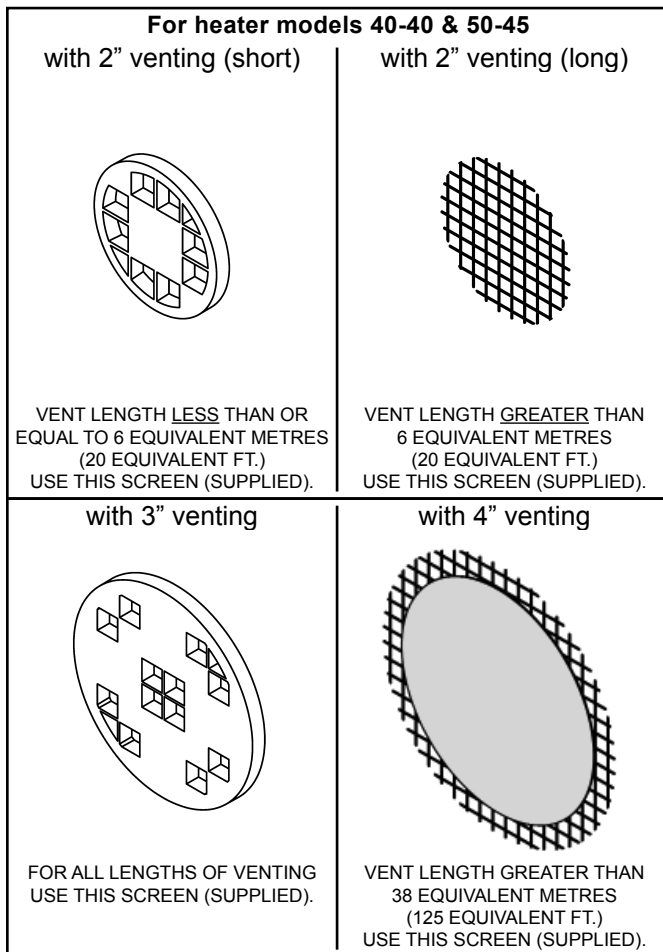
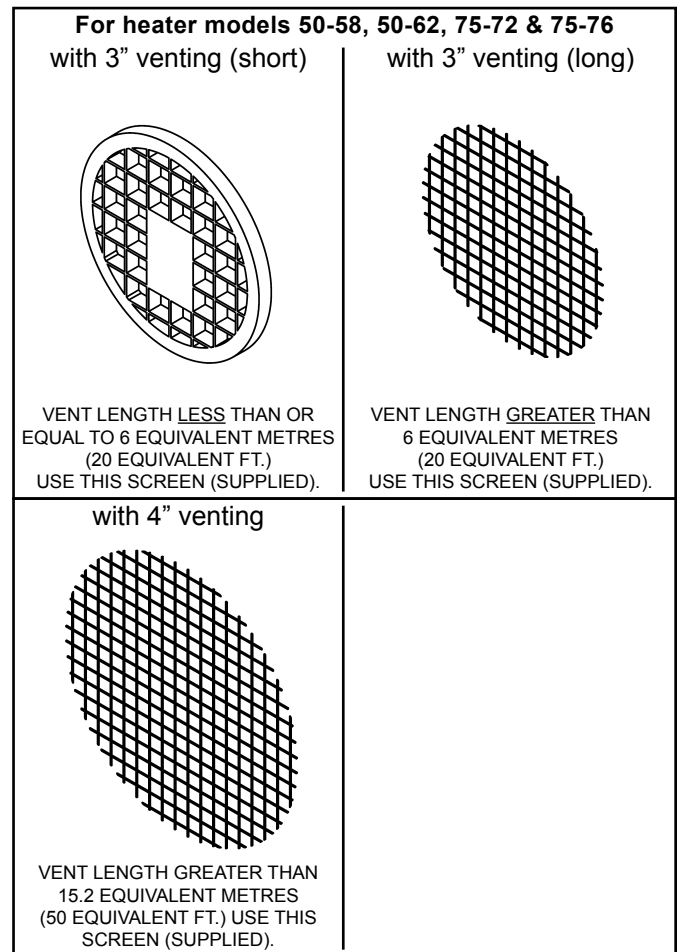

Figure 27
Figure 28
Use the Vent Termination Screen as shown in Figure 27 & Figure 28. Install the Vent Termination Screen in the Termination Elbow on both the air intake pipe and the exhaust pipe.
\* see Figure 27 and Figure 28
Installed in the vent termination elbow, the vent screen is required to keep foreign objects, rodents and small birds from entering the venting system. These screens have been sized to ensure maximum energy efficiency of the vent system based on the “equivalent length” of the vent piping. **CHOOSE ONLY the ONE SCREEN THAT MATCHES YOUR VENTING CONFIGURATION** (see Figure 27 & Figure 28). How to determine the “equivalent length” is shown in Table 3.
- Supplied with this heater are several vent termination screens (see Figure 27 & Figure 28).
- Plastic screens must be secured with (2) drops of silicone sealant. This will allow for easy removal for inspection and cleaning.